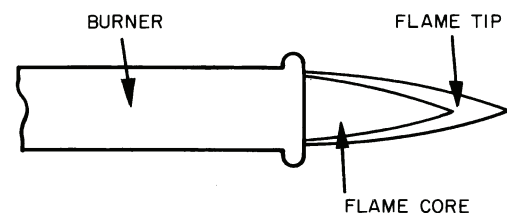

Fig. 6 — Proper Flame Appearance
5. Observe unit heating operation, and watch the burner flame core to see if it is bright blue. If you observe a suspected malfunction, or if the burner flame cores are not bright blue, call your dealer. See Fig. 6.